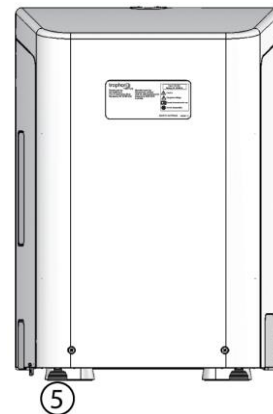

Figure 2
3. Turn the back feet either clockwise or anti-clockwise to level (see Figure 2). Check feet are not loose or missing.